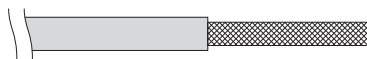

Fig. 4-7
- (1) Remove cable coat not to scratch braided shield. (Fig. 4-7)